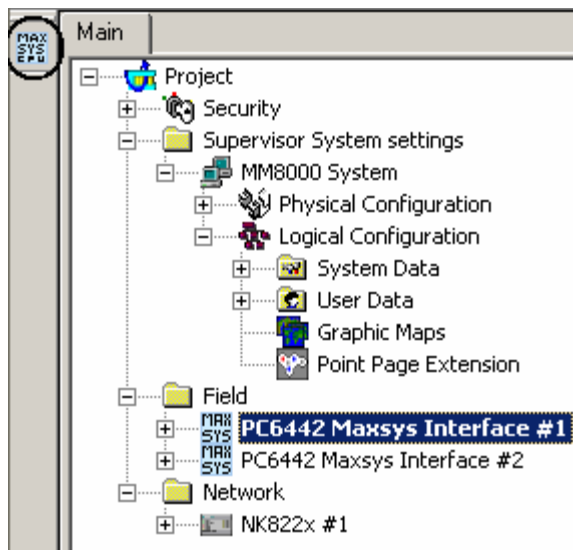

Fig. 13 Adding a MAXSYS subsystem (A)
2. Select the MAXSYS CPU icon  (see Fig. 13):